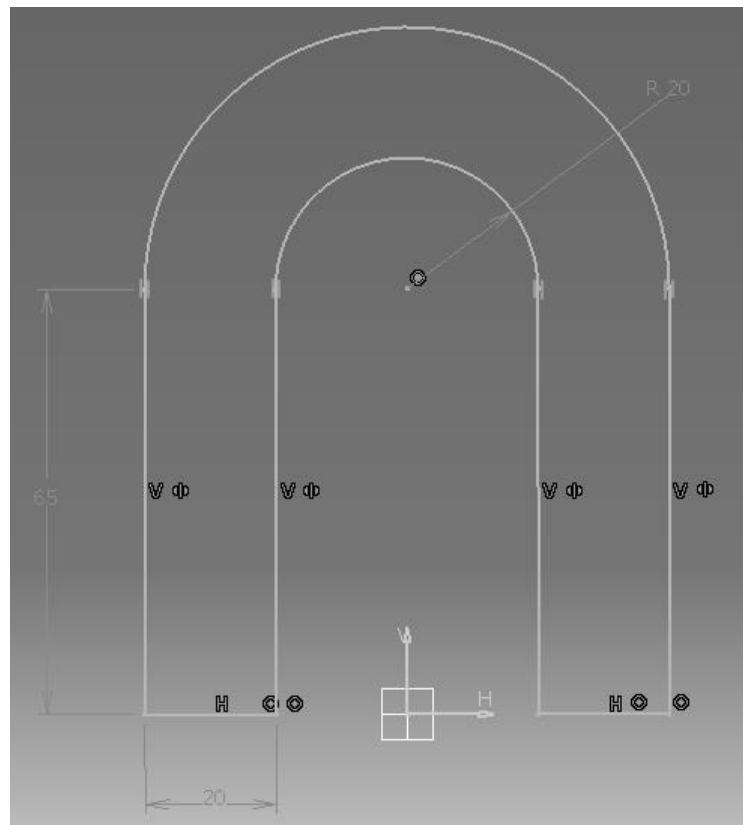

Figure 2.2
- 2.5 Sketch the Profile shown in Figure 2.2
- 2.6 **Constrain** the profile as shown in Figure 2.2